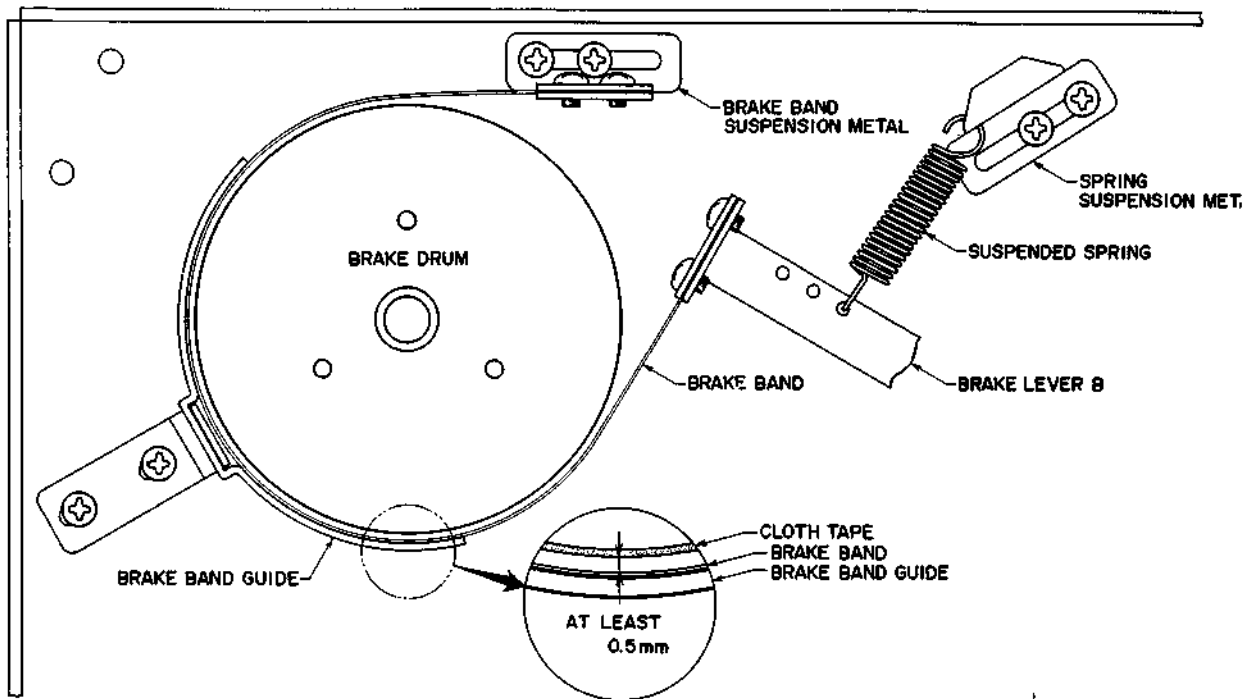

Fig. 8
2) Methods for brake tension adjustment are as follows: (See Fig. 8)
**NOTE:** Following Brake Tension Adjustment, confirm that when the machine is set to each of the various modes (except stop mode), the brake band separates from the cloth tape on the brake drum by at least 0.5 mm. (See Fig. 8)